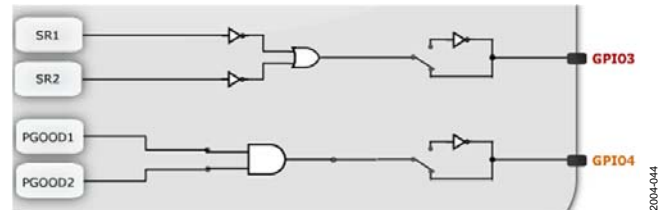

Figure 48. Option 2: GPIO3 Configured as an Active Snubber PWM Output; GPIO4 Configured as a Regular Signal
- Option 2: GPIO3 is configured as an active snubber PWM output; GPIO4 is configured as a regular signal (see Figure 48).